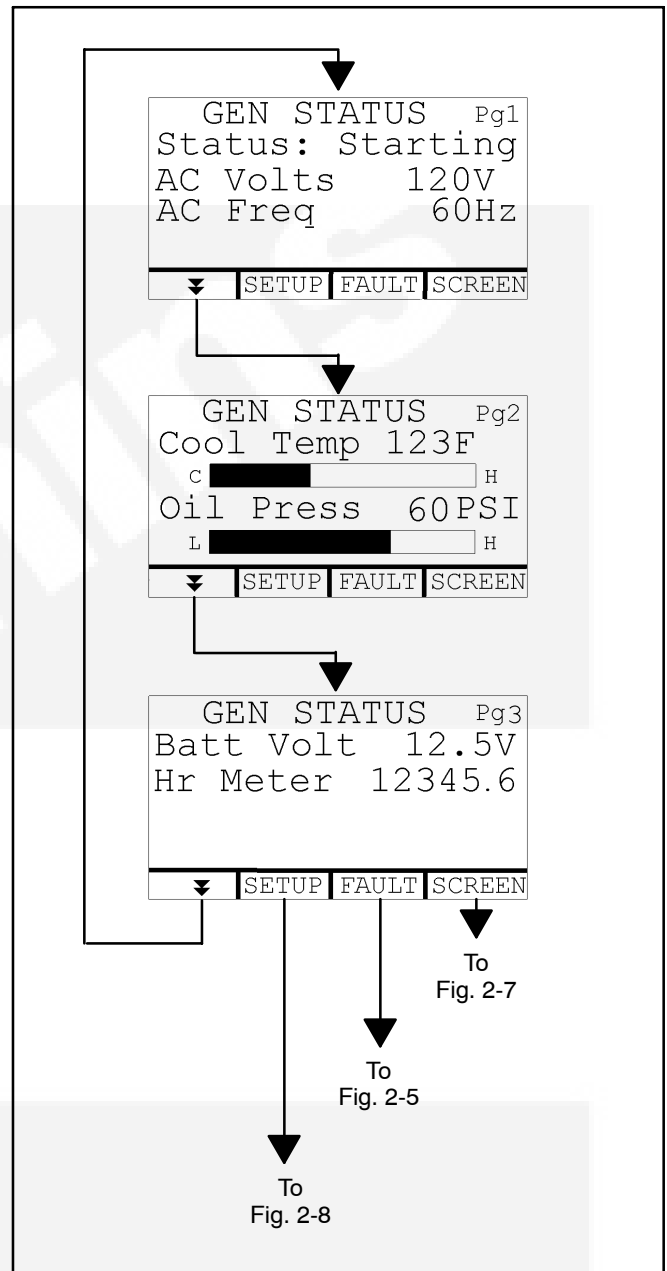

FIGURE 2-3. TYPICAL GENERATOR SET STATUS SCREENS
Push and Hold START until the generator set starts. The **Generator** status lamp will blink while the engine is preheating and cranking and stay on while the generator set is running. **Status** on the Digital Display will change from *Starting* to *Running* (Figure 2-3). See STARTING THE GENERATOR SET (p. 3-3).
Generator set status is displayed on three GEN STATUS screens (Figure 2-3). GEN STATUS Pg1 appears when the Digital Display is turned on. Press the double arrow to go to the next screen.
2. *Push and Hold START* on the Digital Display or control switch until the generator set starts. The generator set status lamp blinks when the engine is cranking and comes on and stays on when the generator set starts and runs. The status displayed on the Digital Display changes from *Starting* to *Running* (Figure 2-3).